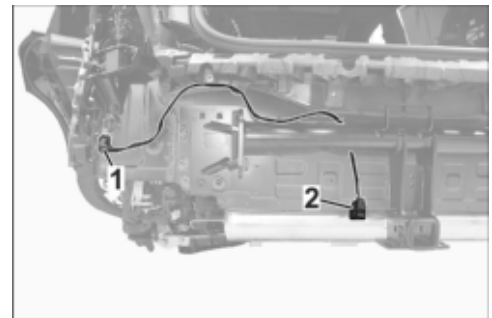

Figure 4
2.3 Fit trailer tow hitch cable harness to rear retaining strip. ⇒ Figure 4
2.4 Remove blank plug from rear wall and route trailer tow hitch wire harness to trailer tow hitch control unit holder. ⇒ Figure 4 -1-